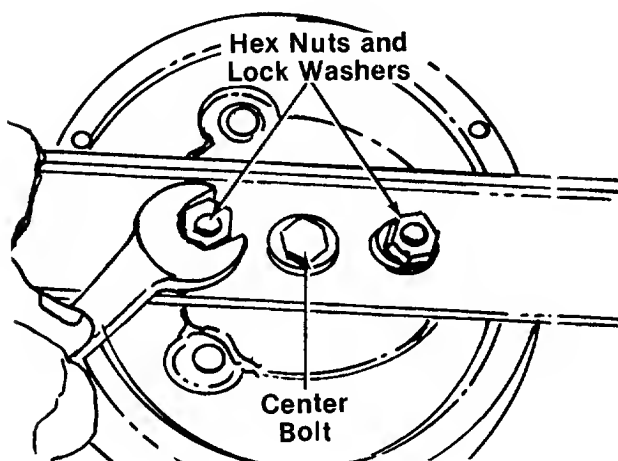

FIGURE 18.
To remove the cutting blade for sharpening or replacement, remove the two hex nuts and lock washers which hold the blade to the blade brake/clutch. See figure 18.
9. Tip the mower on its side. Remove the blade by removing two hex nuts and lock washers. Refer to figure 18.